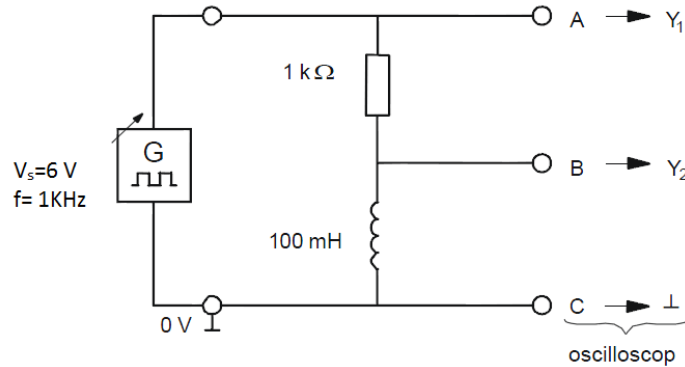

Figure 1
1. Connect the circuit as shown in Fig .1 and set the function generator to positive square wave, amplitude of voltage 6 V and at 1 kHz.